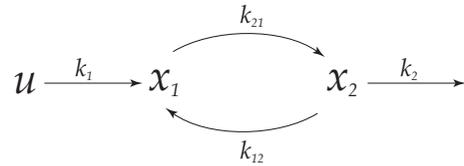

Figure 8.17a
8.17 The model in Figure 8.17a describes the interaction between two proteins with concentrations x_1 and x_2 , where the kinetic parameters k_1, k_{21}, k_{12} and k_2 determine the reaction rate.